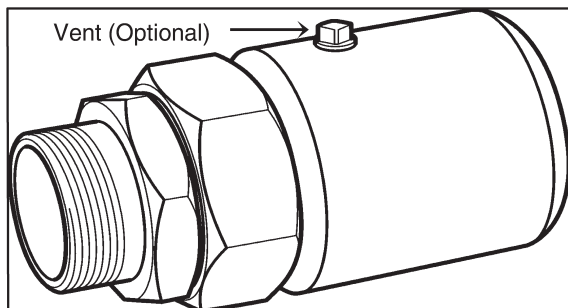

Figure 4-51
• TracPipe PS-II fittings are constructed from TracPipe and TracPipeCounterStrike CSST patented AutoFlare fittings with a plastic containment coupling and a 1/4-inch NPT vent port. Fittings are assembled without special tools (Figure 4-51).